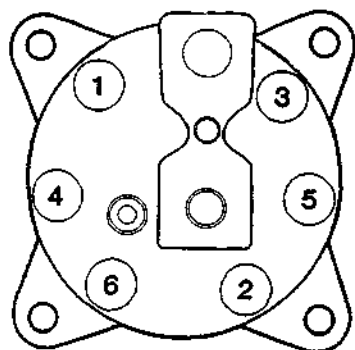

Figure 3.
12. Tighten the cylinder head securing bolts in the order shown in Fig. 3.